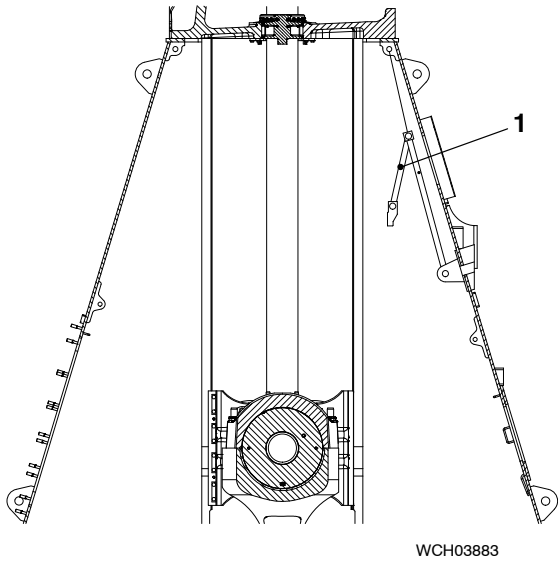

Fig. 3
- 12) Remove the knee lever (1, Fig. 3) from the crosshead connection.
- 13) Let the knee lever (1) hang as shown.